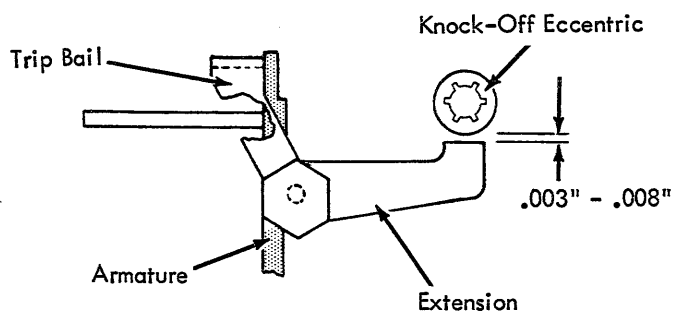

FIGURE 17. Knock Off Eccentrics
- b. Apply slight pressure to the knockoff extension (Fig. 17) or trip link extension to hold the bail in contact with the armatures.
9. Knock Off Eccentrics (Fig. 17) - Adjust (T2 and R5 armatures manually attracted) to clear the trip bail extensions by .003" to .008".